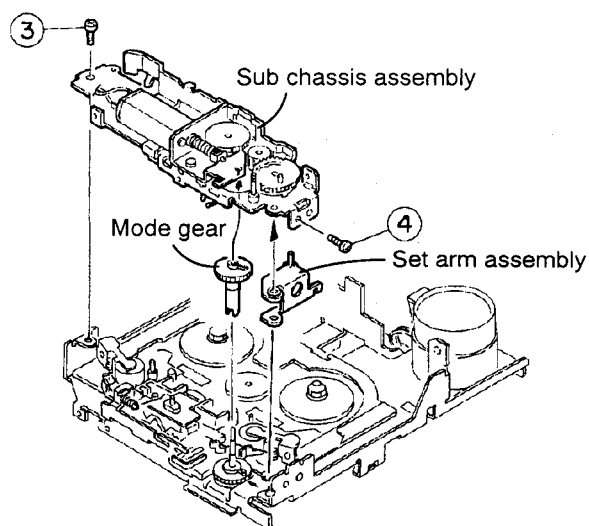

Fig. 2-22
2. Install the sub chassis assembly and secure it with the two screws ③ and ④ as shown in (Fig. 2-22).
Note: The set arm assembly and the mode gear should be positioned as shown in (Fig. 2-22).